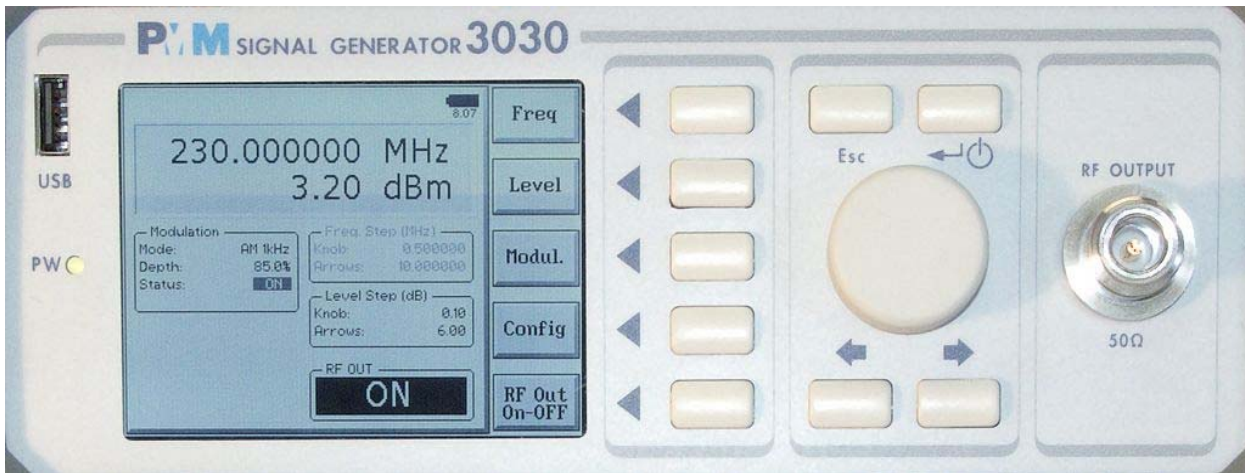

**Fig. 1-2 PMM 3010 Rear Panel**
- **Replaceable Li-Ion Battery (Fig. 1-2) ( available only for the version 3010-02 ) with main Battery Charger connector**